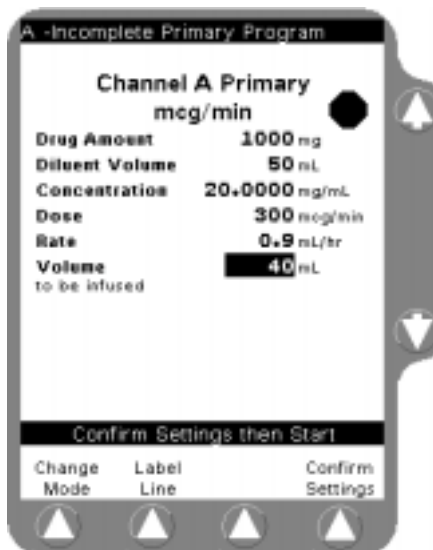

Figure 5-15 Confirm Settings Prompt
**Note:** If the **START** key is pressed before pressing the **Confirm Settings** soft key to verify the parameters, an Incomplete Primary Program alarm occurs and a message is displayed on the prompt line (Figure 5-15).